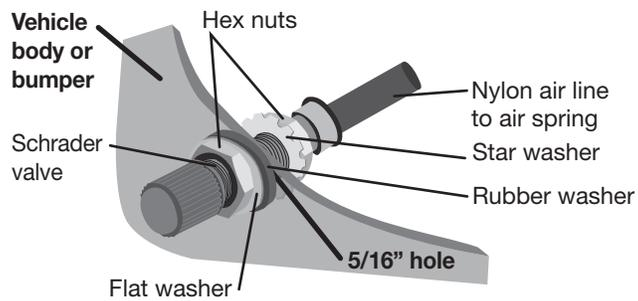

fig. 13
8. Drill a 5/16" hole for the inflation valve and mount as shown (Fig. 13). The rubber washer serves as an outside weather seal.